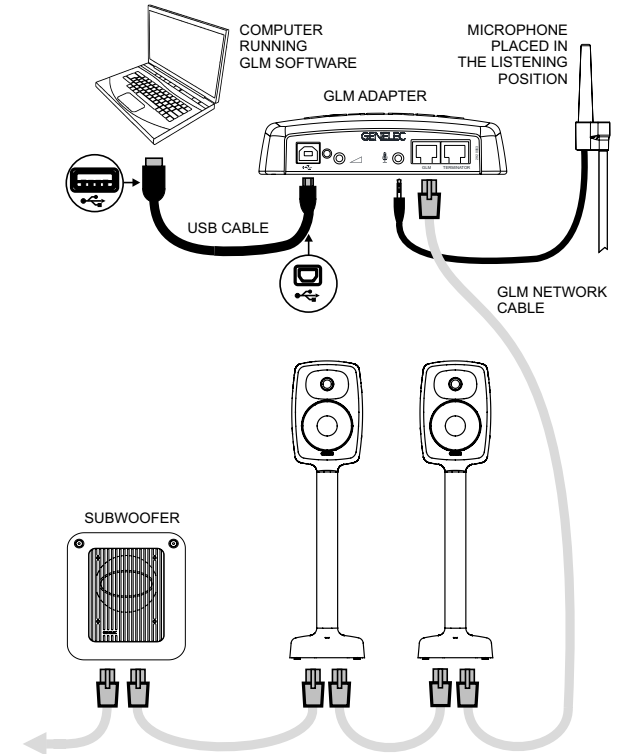

Figure 5. GLM network cabling.
Figure 5 shows the GLM control network cabling and components. For this you’ll need both the GLM Kit and GLM software. The GLM Kit contains an interface for computer USB
2. Connect a CAT5 (RJ45) cable between each loudspeaker (and subwoofer) and finally to the control network input of the GLM Adapter (see Figure 5). Then connect the GLM Adapter device to your computer via the USB connector.